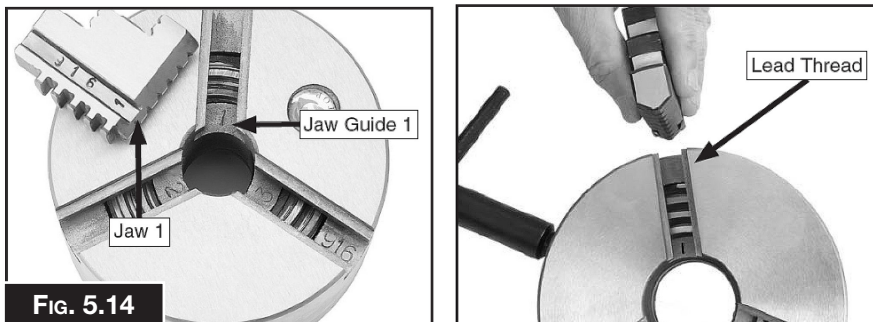

FIG. 5.14
Changing Jaws on 3 Jaw Chuck (Fig. 5.14)
7. Slide the #1 jaw into the #1 jaw guide and hold it firmly against the scroll gear threads, then rotate the chuck key clockwise approximately one turn until the lead thread engages with the jaw. (Fig. 5.14) **Note: Tug on the jaw to make sure it is engaged with the scroll gear thread.**